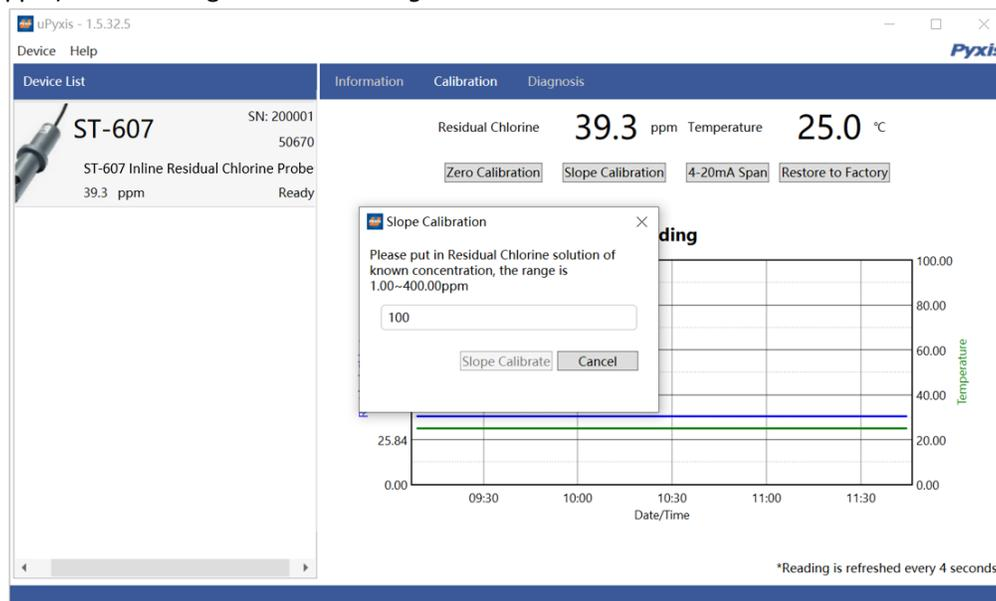

Figure 15.
5. Once the displayed residual chlorine and temperature values are stable, click Slope Calibration to carry out the slope calibration. Tap **SLOPE CALIBRATION** in the uPyxis app. Enter the residual chlorine concentration (1-400 ppm) in the dialog window as in *Figure 15*.